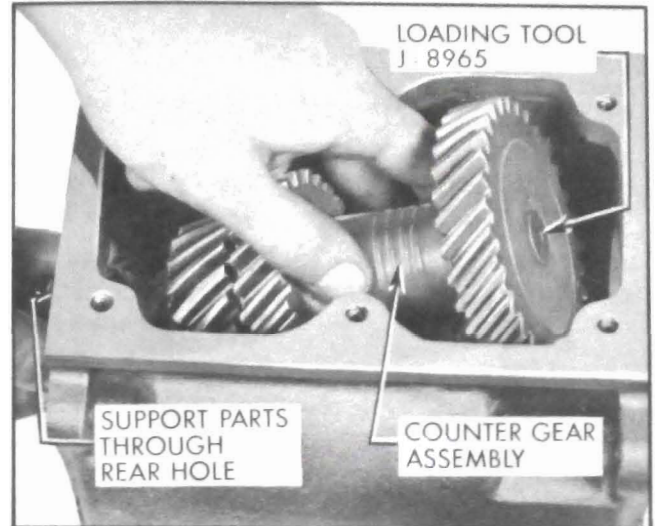

Figure 4-26—Installing Counter Gear
3. With Bearing Loading Tool J-8965 in place, and with all counter gear assembly parts in place except front thrust washer, lower counter gear vertically through top of transmission case with rear (small section of counter gear) down. Then position counter gear in a horizontal position to allow front of counter gear to pass projections in transmission case. See Figure 4-26.